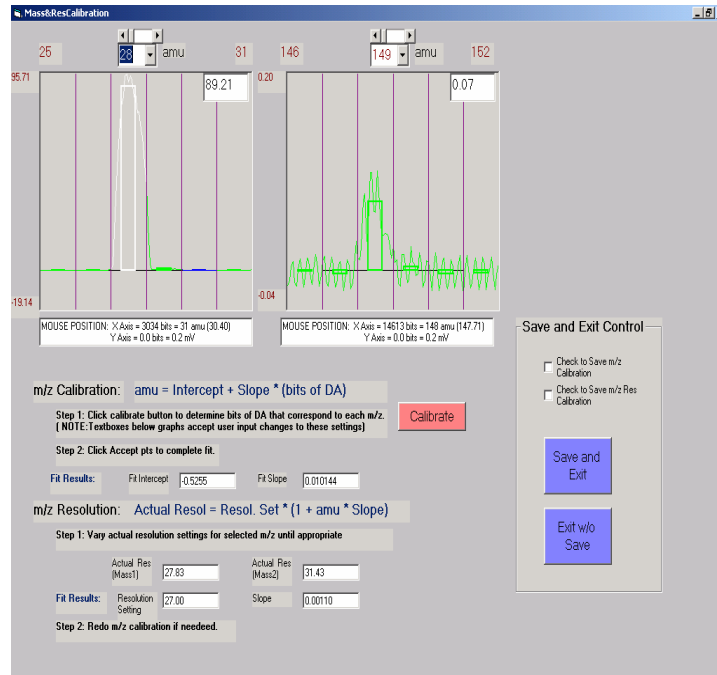

Figure 20: Screen: MS Calibration
- Press the "Calibrate MS" button in the upper right corner of the MS screen. This window appears (Figure 20).